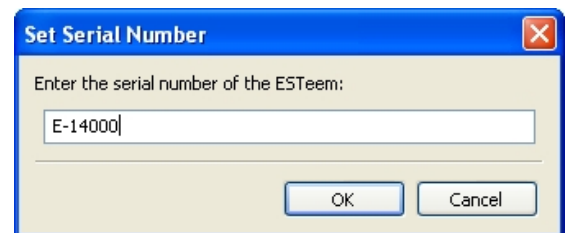
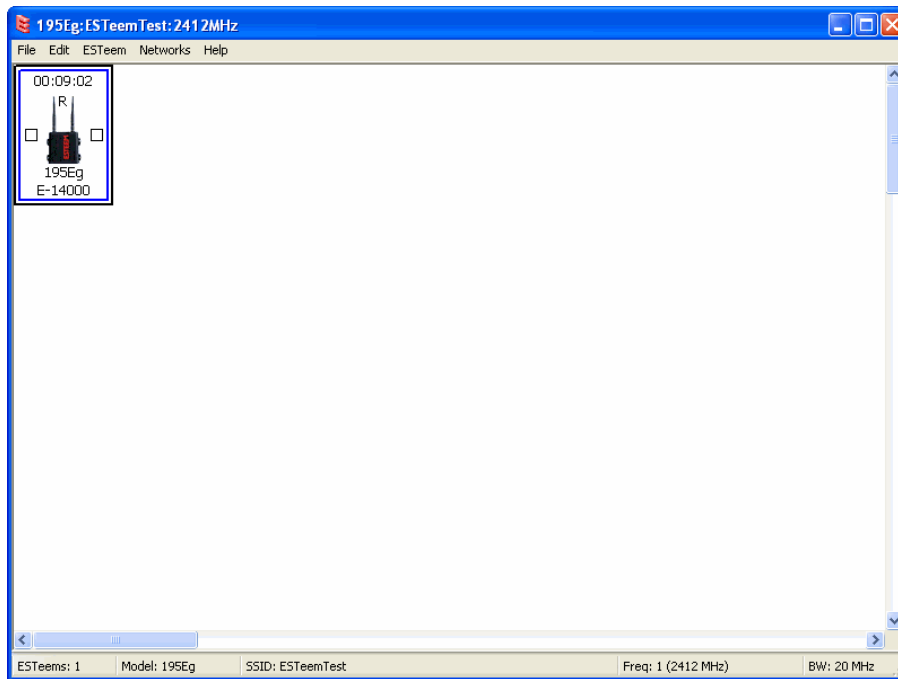

Figure 7: Enter the Serial Number
Figure 8: Main Office ESTEem 195Ea
2. Enter in the ESTeem Model 195Ea serial numbers used for the example (for example enter E-14000 in the Set Serial Number Box) and press the OK button (Figure 7). The ENC Utility will look up the ESTeem 195Ea's serial number in the database and match the correct Wireless LAN MAC (WLAN MAC) address to the modem. This WLAN MAC address will be displayed above the modem symbol on the screen (Figure 8).